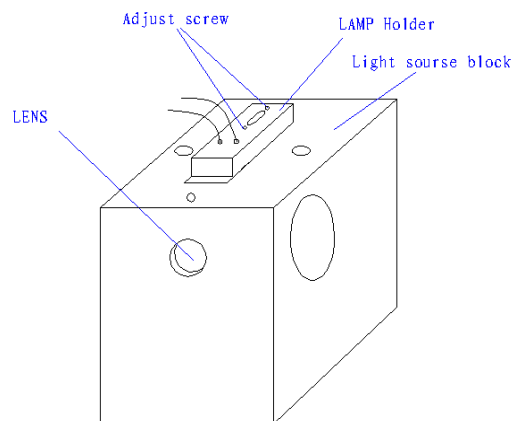

Figure 1.7
- 2) The sketches of the lamp and the sipper pump are as show in the following figure1.7, 1.8: